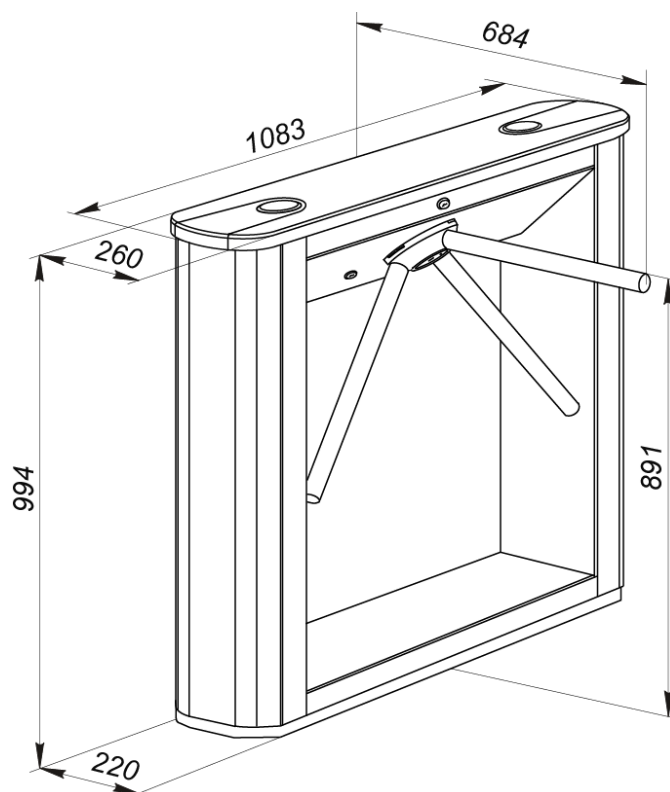

Fig. 1 TTD-03.1 box tripod turnstile. Overall dimensions
- The turnstile housing cover has radio transparent covering, which allows concealed mounting of the ACS readers inside the turnstile housing. The reader operation zone is marked out with color (see Fig. 1).